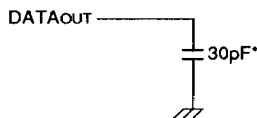

Figure 1. Output Load
Output Load	See Figures 1, 2 and 3
1. Transition is measured $\pm 500\text{mV}$ from low or high impedance voltage with load (Figures 1, 2 and 3).